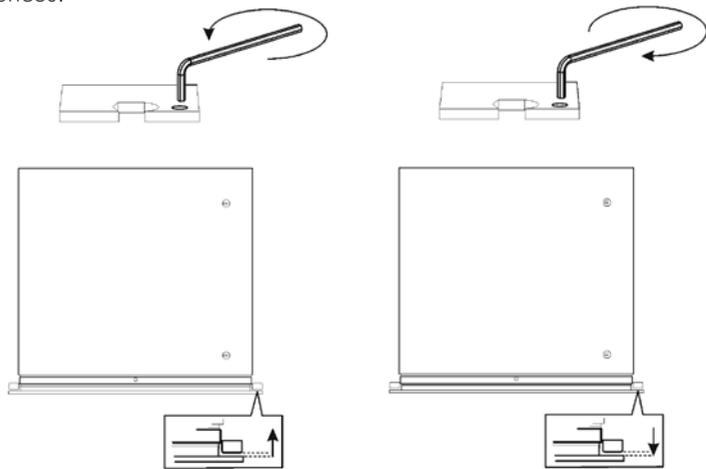

Fig. 5
- Use a 5 mm hex wrench to regulate the drawer fastening mechanism. Turn it clockwise to move the drawer outwards, turn it anticlockwise to move the drawer inwards (Fig. 5)